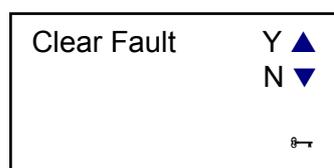

Figure 42. Display of Clear Options
- Enter protected mode and choose the 'Clear Fault' option as described in section 7.4. The display will then ask whether the fault is to be cleared (Y/N) as shown in figure 42.